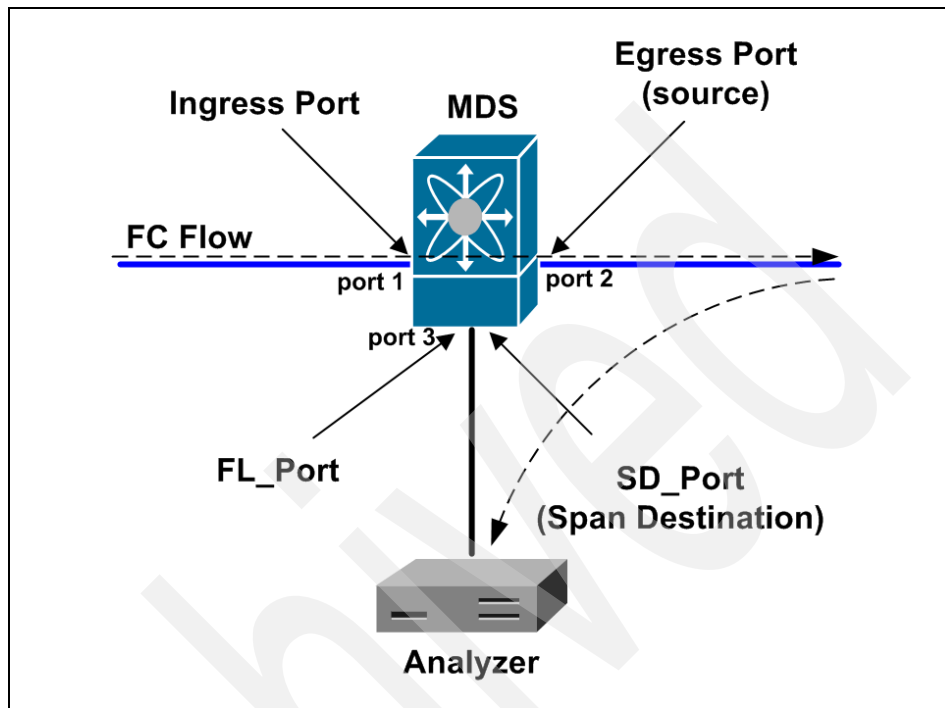

Figure 8-31 SD_Port for outgoing traffic (egress direction)
- Egress source (tx): Traffic exiting the switch fabric through this source interface is spanned or copied to the SD_Port, as shown in Figure 8-31.